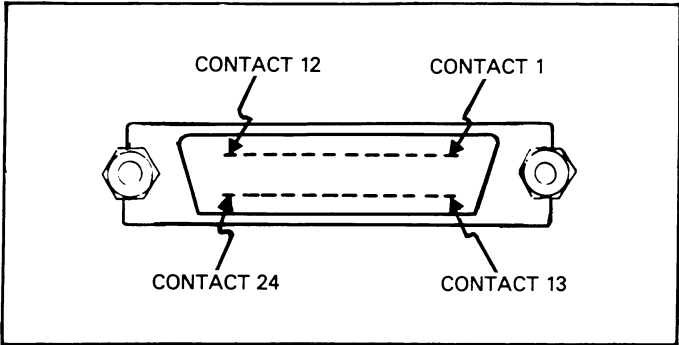

Figure 4-3. Contact Assignments
1. Bus Connections—The Model 228 is connected to the bus via the rear panel connector. It is a standard IEEE bus connector. Maximum cable length for any device on the bus is 20 meters. The Keithley Models 7008-3 and 7008-6 are ideal for connecting instruments to the bus. Figures 4-3 and 4-4 show the connector pin assignments and the IEEE bus connector. The connector contact designations are listed in Table 4-4.